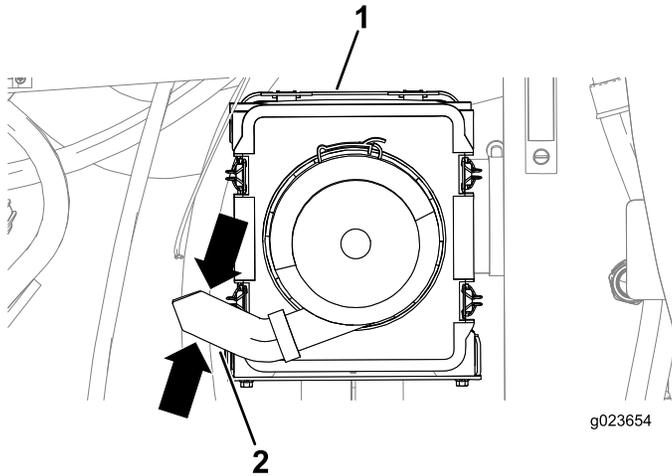

Figure 84
3. Squeeze the sides of the dust valve on the air-cleaner cover to release any collected water, dust, or dirt from the valve. (Figure 84).